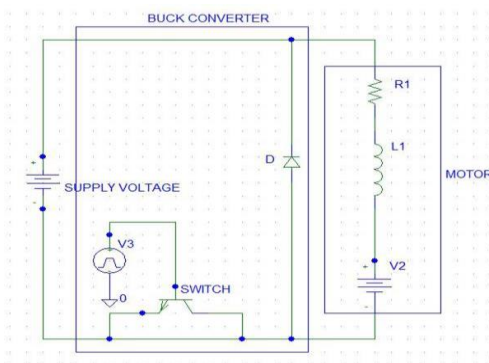

Figure 1. Pspice model of the Drive circuit.
4. Equations obtained from figure 1: